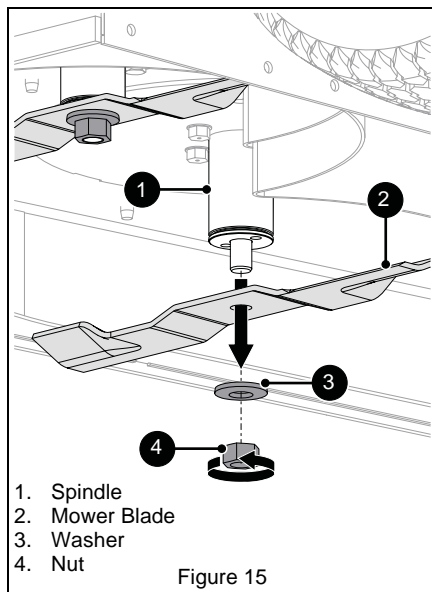

Figure 15
See Figure 15.
1. Reinstall blades, washers and nuts on spindles. See Figure 15.